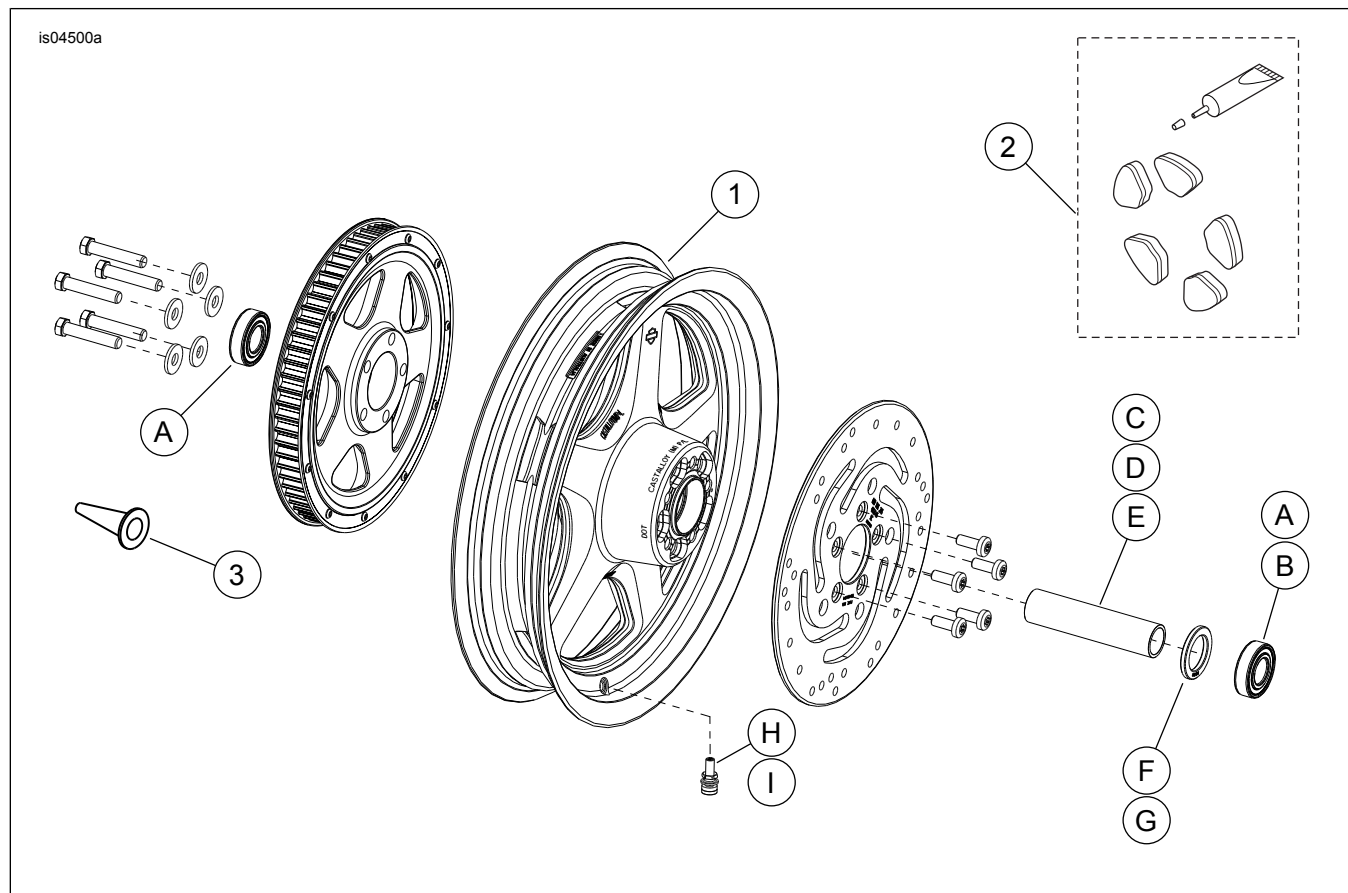

Figure 1. Service Parts: Rear Thunderstar Wheels
See Figure 1 and Table 2.
2. See Figure 1. Install valve stem assembly (H or I) on wheel. Refer to the service manual.